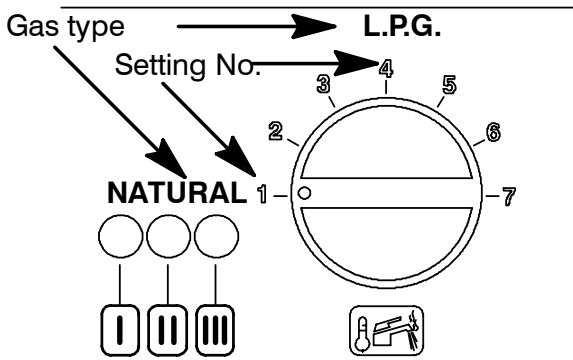

Fig. 8.5
At this step it is possible to visualize the current setting by keeping the reset button 7 pressed for more than 5 seconds. The lamps 10 will flash a number of times corresponding to the setting of the knob 9 in Fig. 8.5
- 13 To change the setting turn the knob 9 on a position corresponding to the gas used as shown in Fig. 8.5